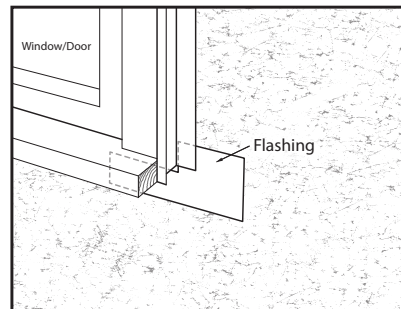

Figure 4.1
4.1 Install flashing on the lower corners of the window/door prior to the installation of J-Channel. (Figure 4.1)